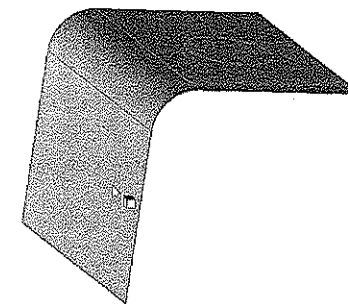

Figure 8-59 Selecting the face to apply Fixed support
4. Choose the **Face** tool from the **Select** toolbar, if it is not already chosen and then select the surface, as shown in Figure 8-59.